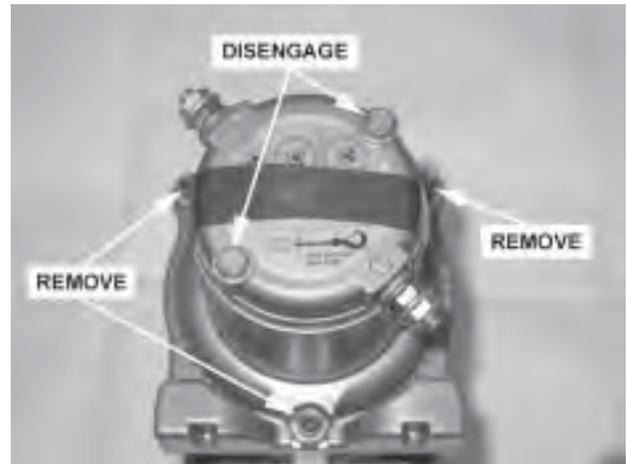

Figure 1
1. Remove the (4) bolts "A" and remove the skid pan "Figure 1".
"Figure 1"
1. Tape the motor end cap to the motor housing as seen in **Figure 1**. **Caution: The motor end cap must NOT be removed from the motor housing, damage may occur to the winch motor.**